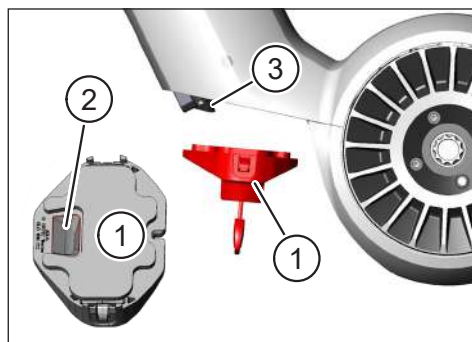

Fig. 16: Aligning the battery lock
- ▶ Align the battery lock (No. 1 in Fig. 16) so that the opening provided (No. 2 in Fig. 16) is aligned with the recessed grip (No. 3 in Fig. 16) on the battery.